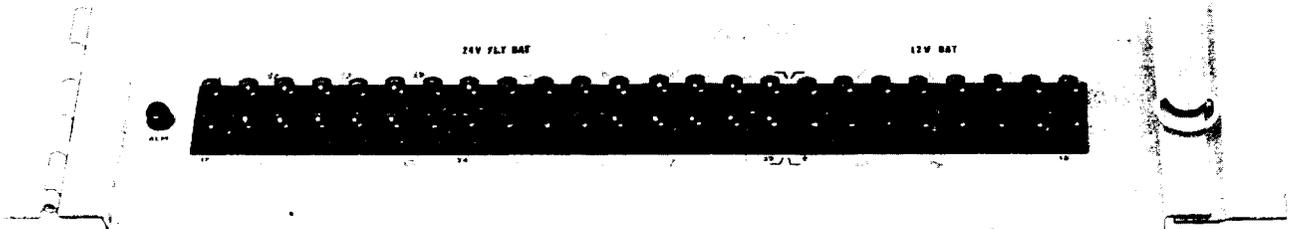

Fig. 1—J68929AC, AT, or AY Filter and Fuse Panel
- 3 ♦At the J68929AC, AT, or AY filter and fuse panels (Fig. 1), insert a blown fuse in each fuse holder (one at a time) as designated in Table A.
- 30 Insert the applicable fuse (F2 to F6, F12 to F16, F18 to F22, F28 to F32) in the filter and fuse panel (Fig. 1) for the channel bank being equipped. (See Table A.)